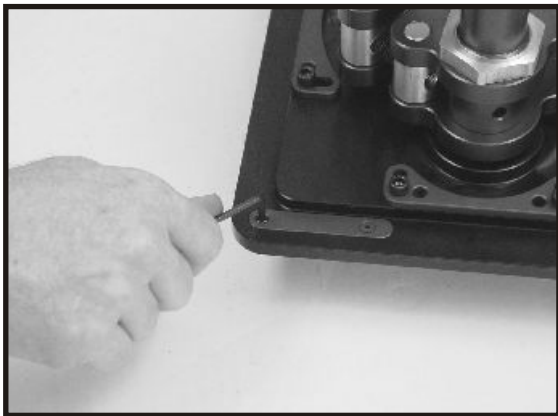

FIG. 3
1. The Mast-R-Lift features built-in plate levelers to adjust the surface of the top plate flush with the router table surface (Fig. 3). Using the 1/8" hex wrench included with your lift adjust all four levelers so they are flush with the underside of the plate surface. Then place the lift in the table top and determine amount of adjustment needed. Take the lift out of the table and make the same amount of adjustment on all four levelers. Be sure to make all adjustments equal in terms of rotations and/or fractions of a rotation. Place the lift back in the table top and check for level. If necessary repeat until desired level is achieved.